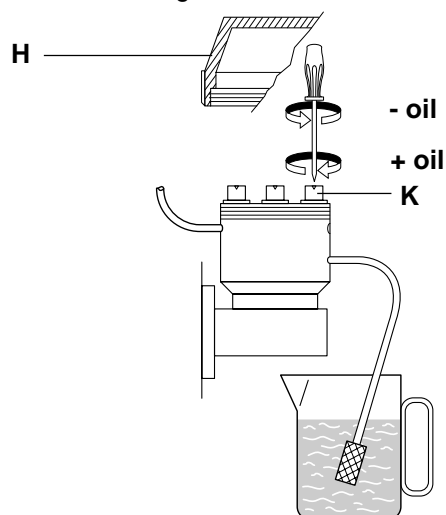

FIG. 5
- c) Take of the protection cap "H" of fig. 5
- d) With a short screw driver screw or unscrew the plug "K" of Fig. 5.